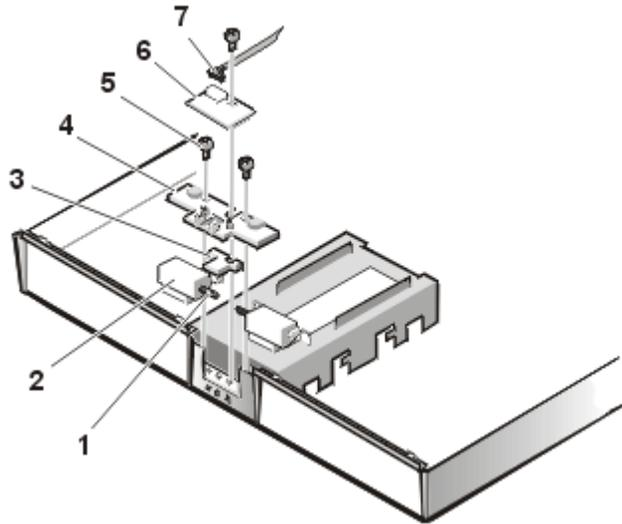

Figure 37. Latch Assembly Components
1. Remove the left hinge cover (see Figure 37).